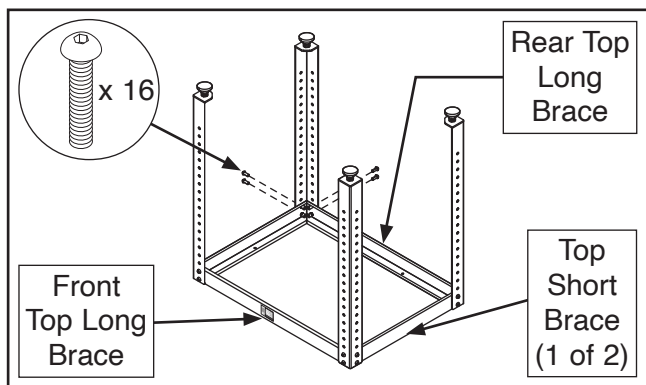

Figure 4. Long legs attached to top braces.
1. Attach (4) long legs to (1) front top long brace, (1) rear top long brace, and (2) top short braces using (16) M8-1.25 x 20 button head cap screws (see **Figure 4**).